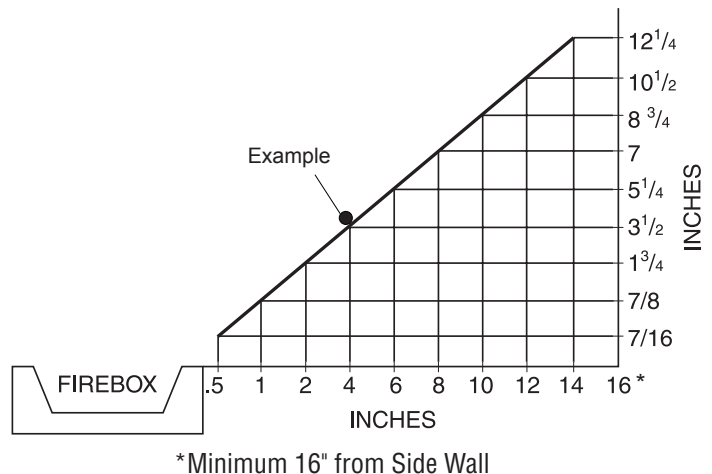

Figure 6 - Minimum Clearance for Combustible to wall
Minimum Wall and Ceiling Clearances (see Figure 6)
- A. Clearances from the side of fireplace cabinet to any combustible material and wall should follow diagram in Figure 6.
Example: The face of a mantel, bookshelf, etc. is made of combustible material and protrudes 3 1/2" from the wall. This combustible material must be 4" from the side of the fireplace cabinet (see Figure 6).
* These dimensions allow for min. Clearances to a 45° projected side wall. However, clearances to projected mantel trims and facings are allowed within a min. Of 16" to a perpendicular wall as shown in figure 6, on page 10.